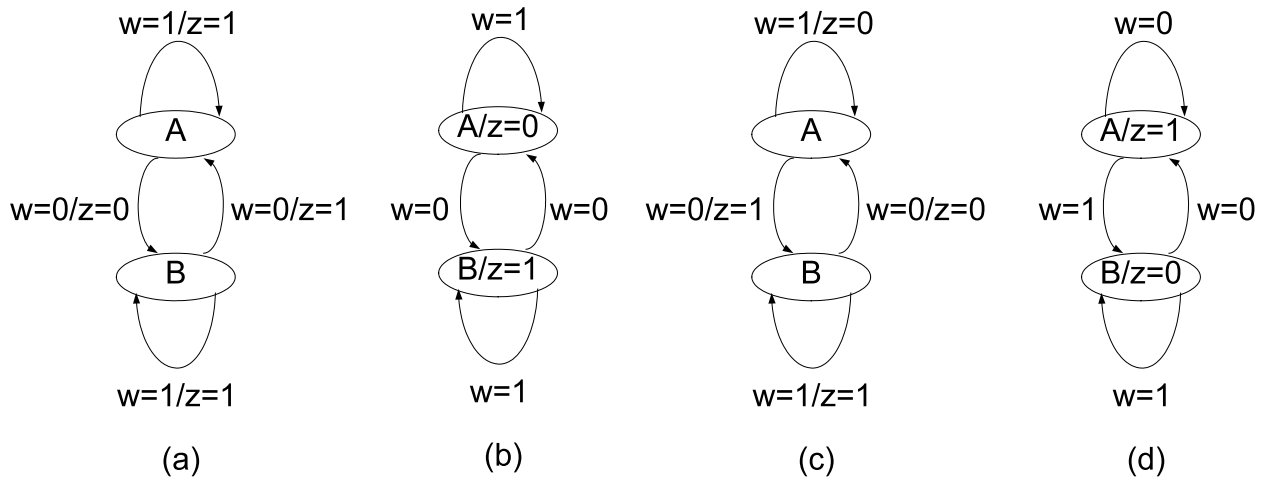

Figure 14 - State transition diagrams for question 19.
1. Figure 14(a)
2. Figure 14(b)
3. Figure 14(c)
4. Figure 14(d)